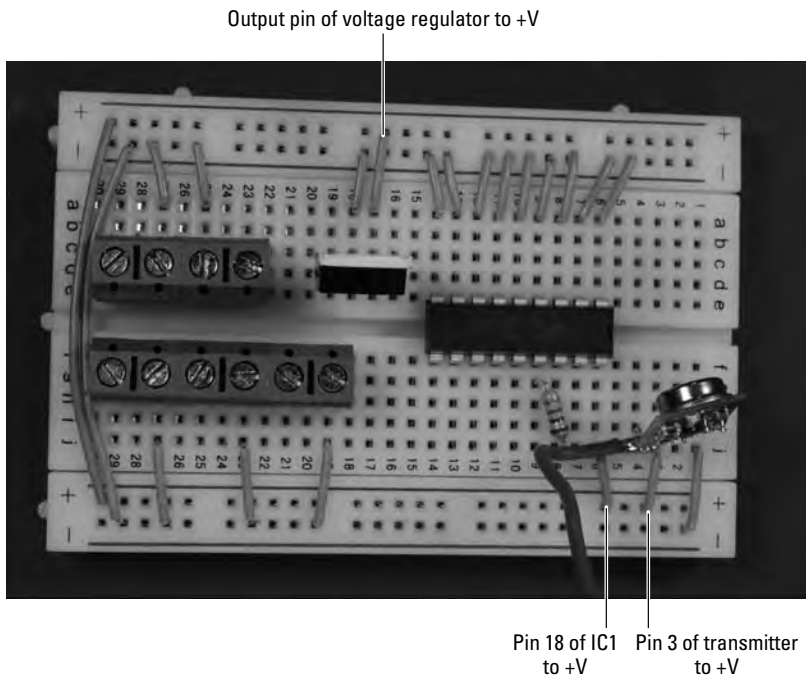

Figure 13-11:
5. Insert wires to connect the IC, voltage regulator, and transmitter to +V; then insert a wire between the two +V buses to connect them, as shown in Figure 13-11.